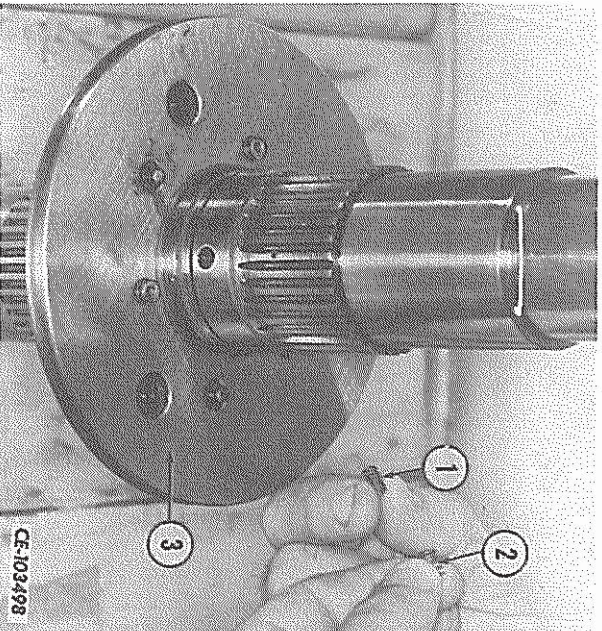

FIG. 62 — Installing the Release Springs
3. Place the shaft on end so the end with the woodruff key slot is down. Install an inner and outer release spring into each of the three spring bores in the separator plate (Fig. 62).
7. Install an inner release spring (1, Fig. 62) and outer release spring (2) into each of the three spring bores in the separator plate (3).